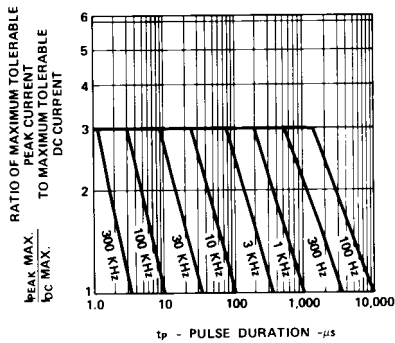

Figure 5. Maximum Tolerable Peak Current vs. Pulse Duration. ($I_{DC MAX}$ as per MAX Ratings).
1. See Figure 5 (HER/Orange), 10 (Yellow), or 15 (Green/Emerald Green) to establish pulsed operating conditions.